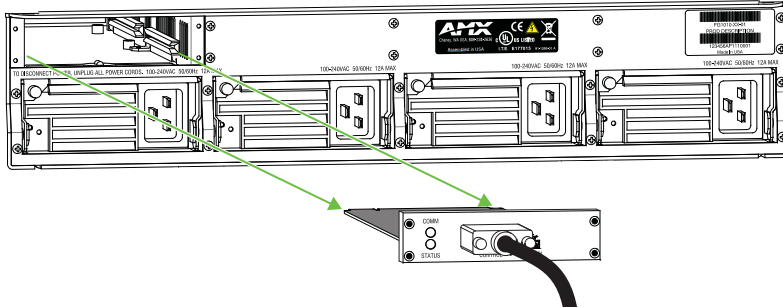

FIG. 39 Use a serial cable to pull board out
4. If not already attached, attach a serial (DB-9) cable to the serial port on the CPU board and use the cable's connector as a handle to carefully pull the CPU board straight out of the enclosure (FIG. 39).